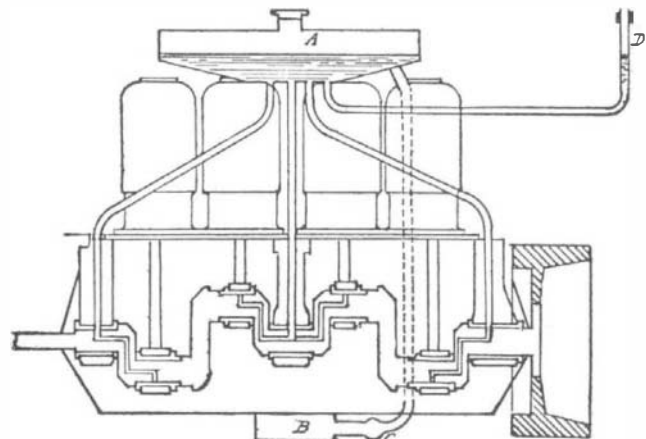

Fig. 4.—GRAVITY FEED OILING SYSTEM.
**The Gravity Feed System (Fig. 4).**—Probably the simplest system used to convey lubricating oils to their respective bearings is the gravity system. The oil flows by gravity from a cup or a tank to the bearing through small copper pipes. The amount is regulated by a needle valve for a certain number of drops per minute, which can be counted as they leave the oiler and pass through a sight (glass) tube before entering the feed pipe. In cold weather care should be taken that the oil actually reaches its destination. If the oil proves too thick and a thinner grade cannot be procured at once, it may be thinned with a little kerosene. Perfectly clean oil should be used, for the least foreign matter is liable to stop up a small opening in the needle-valve through which the oil drops. When the system is used to lubricate engine cylinders, a pressure-tube must be provided inside of the gravity-feed cup, so as to allow for all back pressure from the cylinder.